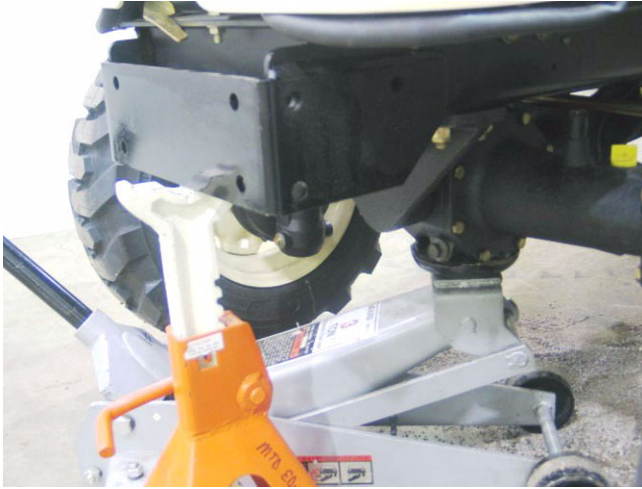

Figure 3.8
- 3.8. Lift and support the front of the tractor by the differential housing. Leave the hydraulic jack in place. See Figure 3.8.